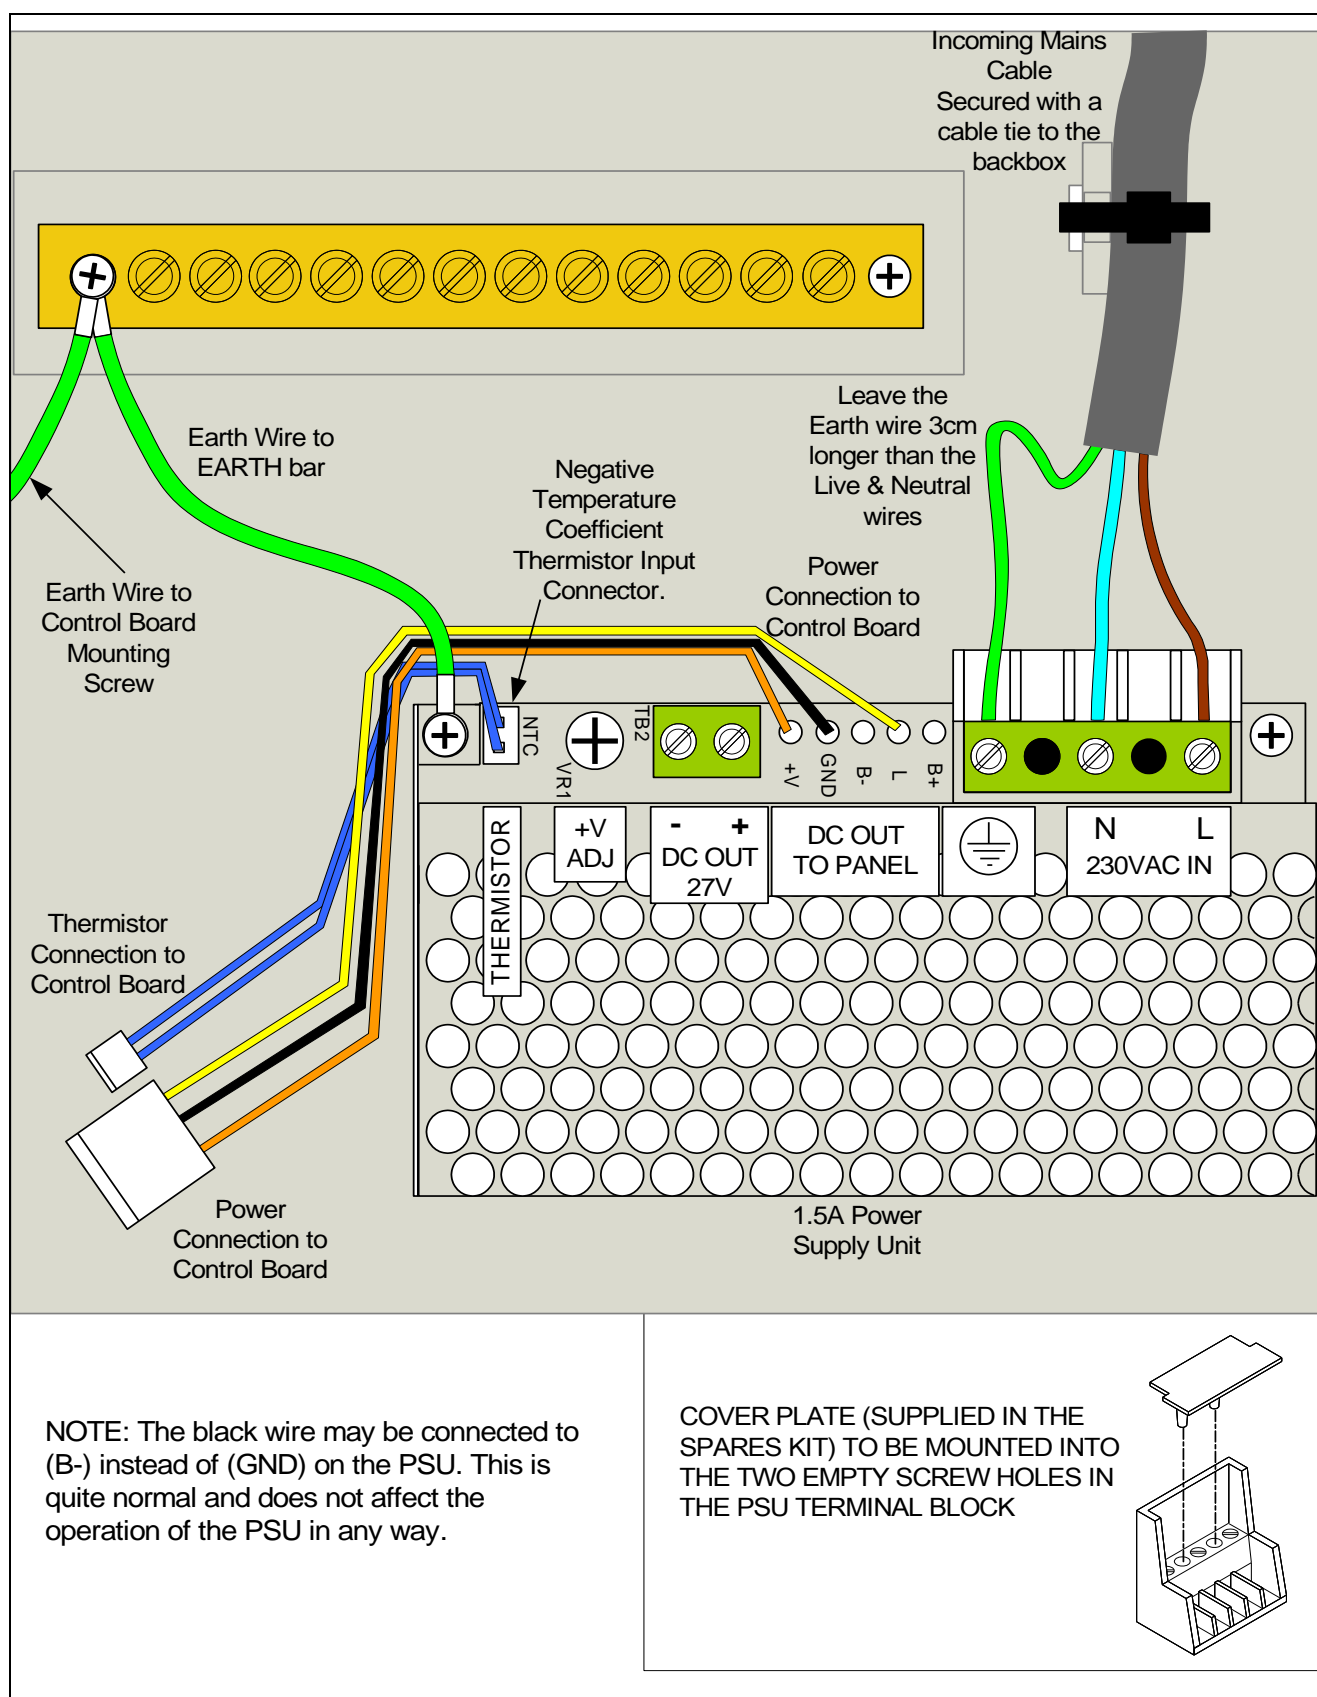

Figure 12 – BAQ35T24 1.5A Power Supply Connections
17. Connect the incoming mains cable to the power supply, leaving the earth core 3cm longer than the live & neutral cores. (This is a safety feature, so that if the mains cable gets pulled out of the power supply, the safety earth will be the last core to be disconnected). See Figure 12.
18. Use the supplied cable tie to fix the mains cable to the enclosure via the plastic loop. See Figure 12.